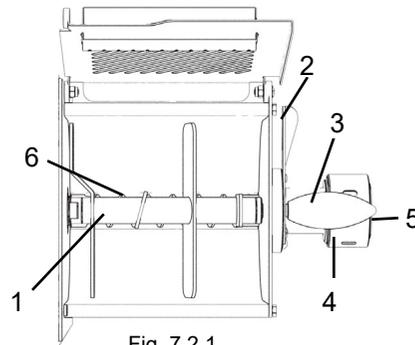

Fig. 7.2.1
1. Put the blade "1" in the position shown in Fig. 7.2.1.
CAUTION! If the blade is not lying in the position shown in Fig. 7.2.1, it **cannot** be removed.